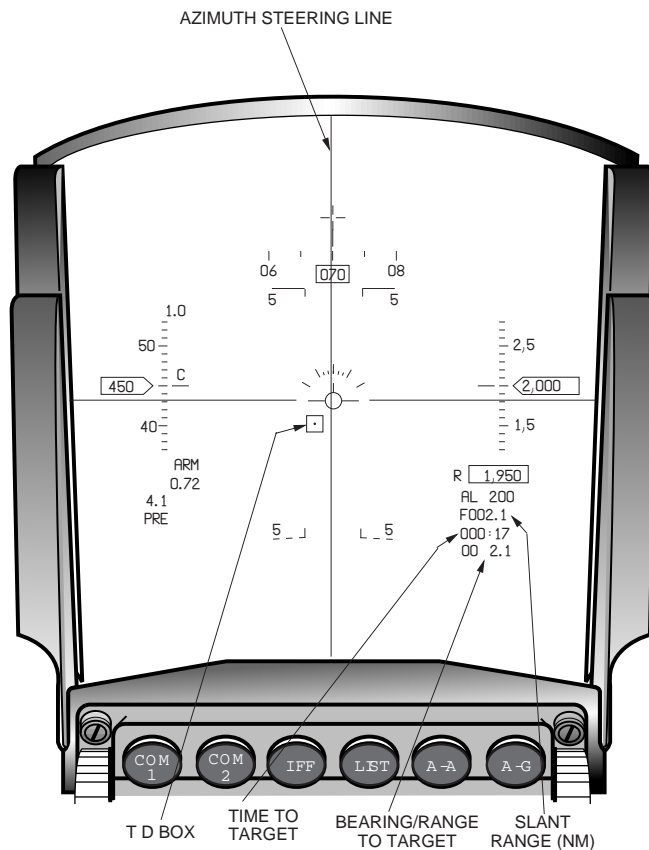

Figure 6-26 E-O PRE HUD
**E-O Preplanned Submode.** The PRE delivery submode is used to attack preplanned targets with the AGM-65 A, B, D, or G (Figures 6-26 and 6-27). The AGM-65 seeker is slaved to the FCR LOS initially in this submode and the FCR is in GM. The target is first located using INS coordinates. The pilot then refines the target position with the FCR GM cursor and commands the radar to track (TMS-forward). The SOI then automatically moves to the AGM-65 WPN page where the pilot visually identifies the target in the weapon video, refines the AGM-65 LOS on the target, commands weapon track (TMS-forward), and launches the weapon with WPN REL.